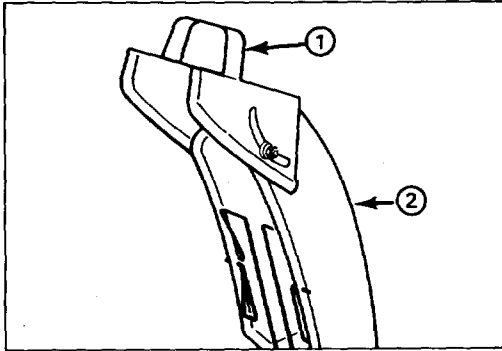

Figure 12
Deflector Handle (Fig. 12) — Deflector handle on top of discharge chute is used to control the height of the snow stream.
6. Grasp recoil starter handle (Fig. 12) and pull it out slowly until positive engagement results; then pull vigorously to start the engine. Keep firm grip on starter handle and return the rope slowly.